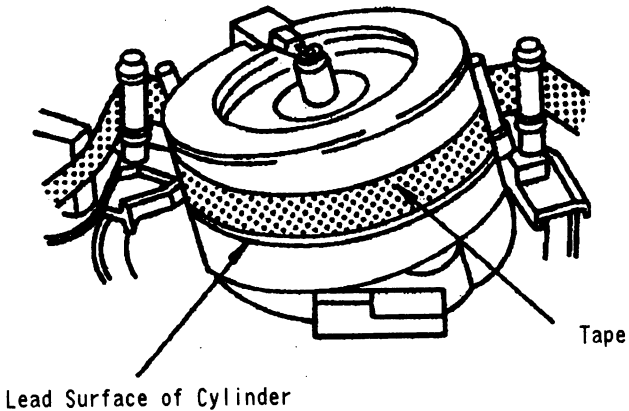

Fig. 2
4. Observe the tape transport at the lead surface of the cylinder during the PLAY mode, and confirm that the tape runs smoothly along the lead surface of the cylinder without slipping downward or upward. (Refer to Fig. 2.)